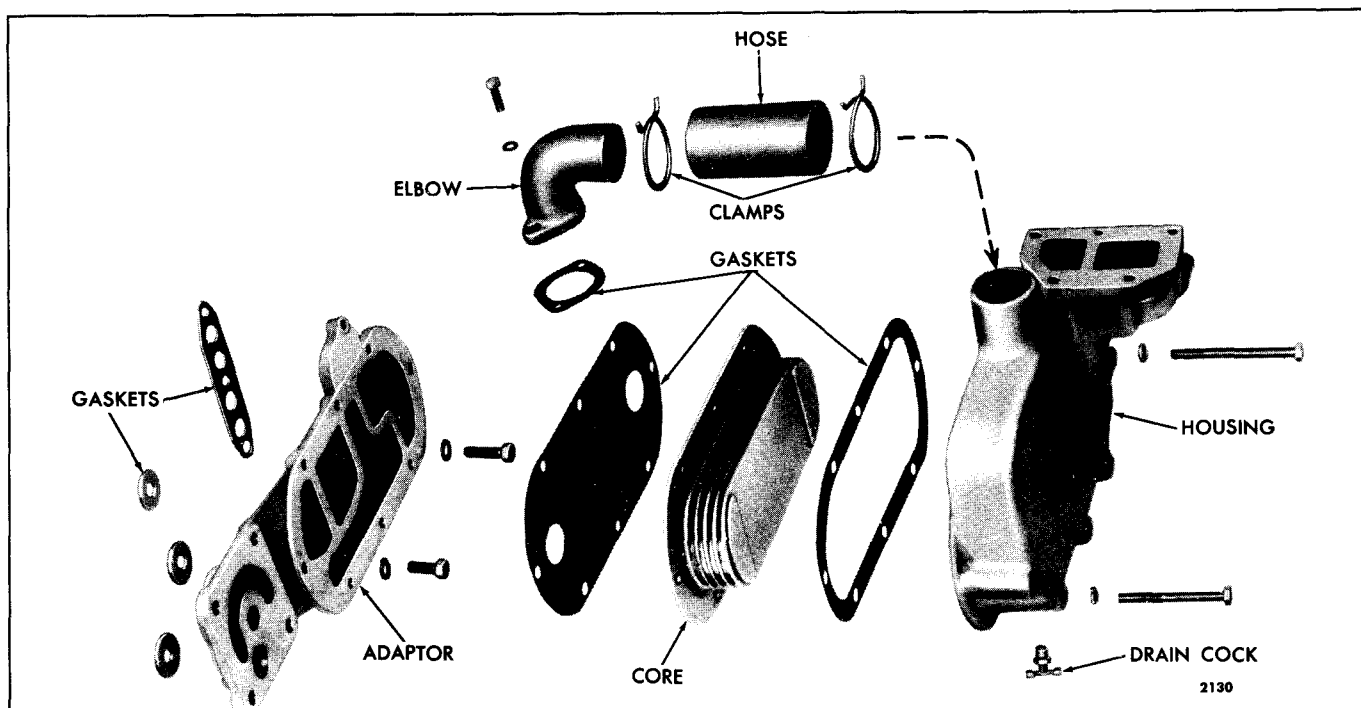

Fig. 4 – Oil Cooler Details and Relative Location of Parts (In-Line Engine)
2. Clean the old gasket material from both faces of the core flange and affix new gaskets to the inner and outer faces (Figs. 4 and 5). Insert the core into the cooler housing.
1. If the oil cooler adaptor (In-line engines) was removed from the cylinder block, remove the old gasket material from the bosses where the adaptor sets against the block. Affix new adaptor gasket and shims, then secure the adaptor to the cylinder block with five bolts and lock washers (Fig. 4). A nitrile base oil cooler to adaptor gasket is currently used on vehicle engines equipped with the AT540 transmission. The new gasket (charcoal colored) is more compatible with transmission fluid than the former gasket (beige color).